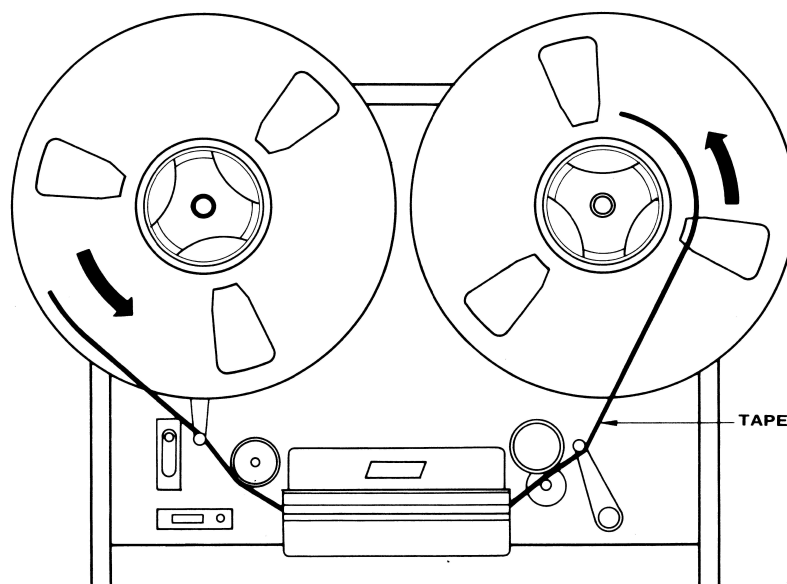

Fig. III-1 Tape Threading
3. Thread tape as shown in Fig. III-1 and place the end of the tape in the slot in the empty reel. Wind the reel counterclockwise three to four turns to remove slack and operate the tension-arm safety switch.